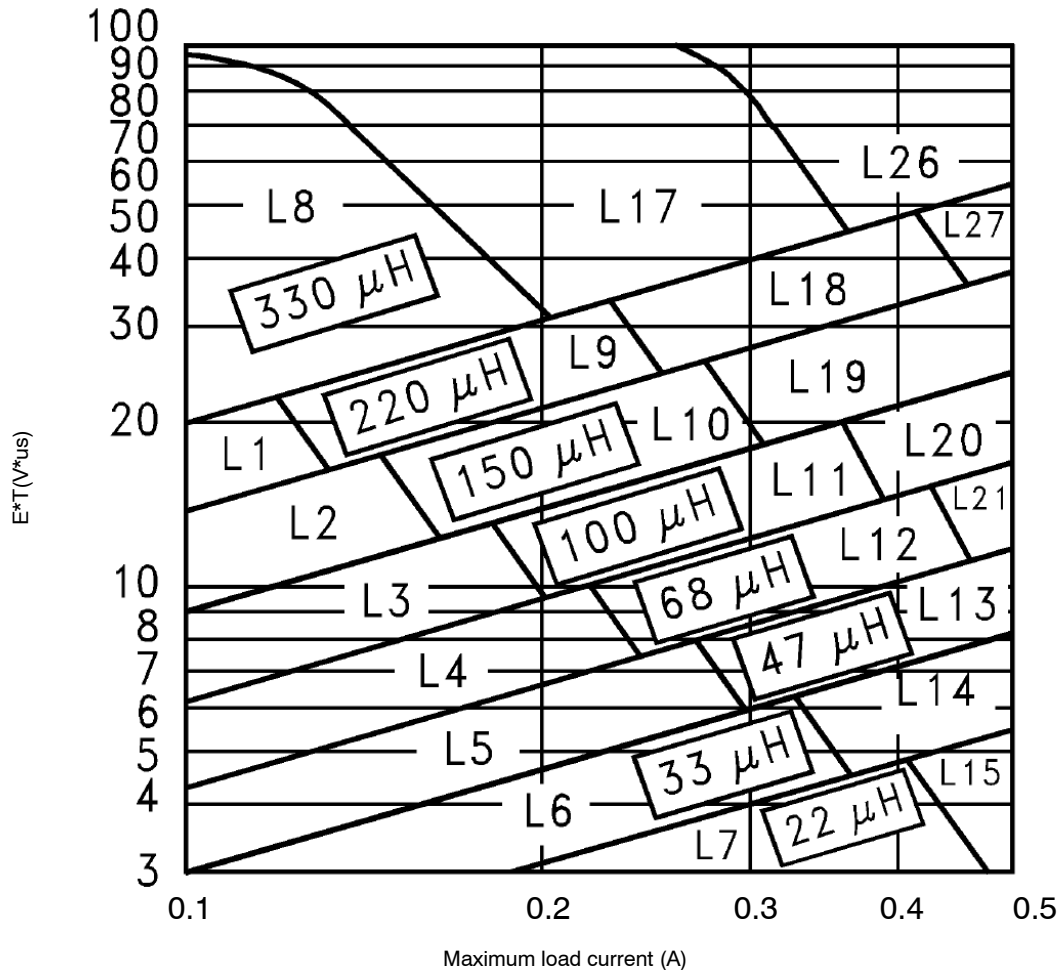

Figure 19. Inductor Value Selection Guides (For Continuous Mode Operation)
<p>4. Inductor Selection (L1)</p> <p>A. Use the following formula to calculate the inductor Volt x microsecond [V x μs] constant:</p> $E \times T = (V_{IN} - V_{OUT} - V_{SAT}) \times \frac{V_{OUT} + V_D}{V_{IN} - V_{SAT} + V_D} \times \frac{1000}{150 \text{ kHz}} (V \times \mu s)$ <p>B. Match the calculated E x T value with the corresponding number on the vertical axis of the Inductor Value Selection Guide shown in Figure 19. This E x T constant is a measure of the energy handling capability of an inductor and is dependent upon the type of core, the core area, the number of turns, and the duty cycle.</p> <p>C. Next step is to identify the inductance region intersected by the E x T value and the maximum load current value on the horizontal axis shown in Figure 19.</p> <p>D. Select an appropriate inductor from Table 3. The inductor chosen must be rated for a switching frequency of 150 kHz and for a current rating of 1.15 x I_{Load}. The inductor current rating can also be determined by calculating the inductor peak current:</p> $I_{p(max)} = I_{Load(max)} + \frac{(V_{in} - V_{out}) t_{on}}{2L}$ <p>where t_{on} is the “on” time of the power switch and</p> $t_{on} = \frac{V_{out}}{V_{in}} \times \frac{1.0}{f_{osc}}$	<p>4. Inductor Selection (L1)</p> <p>A. Calculate E x T [V x μs] constant:</p> $E \times T = (12 - 5 - 1.0) \times \frac{5 + 0.5}{12 - 1 + 0.5} \times \frac{1000}{150 \text{ kHz}} (V \times \mu s)$ $E \times T = (6) \times \frac{5.5}{11.5} \times 6.7 (V \times \mu s)$ <p>B. E x T = 19.2 [V x μs]</p> <p>C. I_{Load(max)} = 0.5 A Inductance Region = L20</p> <p>D. Proper inductor value = 100 μH Choose the inductor from Table 3.</p>
To simplify the inductor selection process, an inductor selection guide for the LM2594 regulator was added to this data sheet (Figure 19). This guide assumes that the regulator is operating in the continuous mode, and selects an inductor that will allow a peak-to-peak inductor ripple current to be a certain percentage of the maximum design load current. This percentage is allowed to change as different design load currents are selected. For light loads (less than approximately 300 mA) it may be desirable to operate the regulator in the discontinuous mode, because the inductor value and size can be kept relatively low. Consequently, the percentage of inductor peak-to-peak current increases. This discontinuous mode of operation is perfectly acceptable for this type of switching converter. Any buck regulator will be forced to enter discontinuous mode if the load current is light enough.